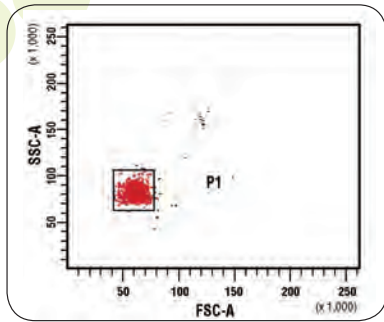

Figure 1
- Using the FSC vs. SSC dot plot, construct a live gate around the singlet population of the microspheres. (Figure 1).